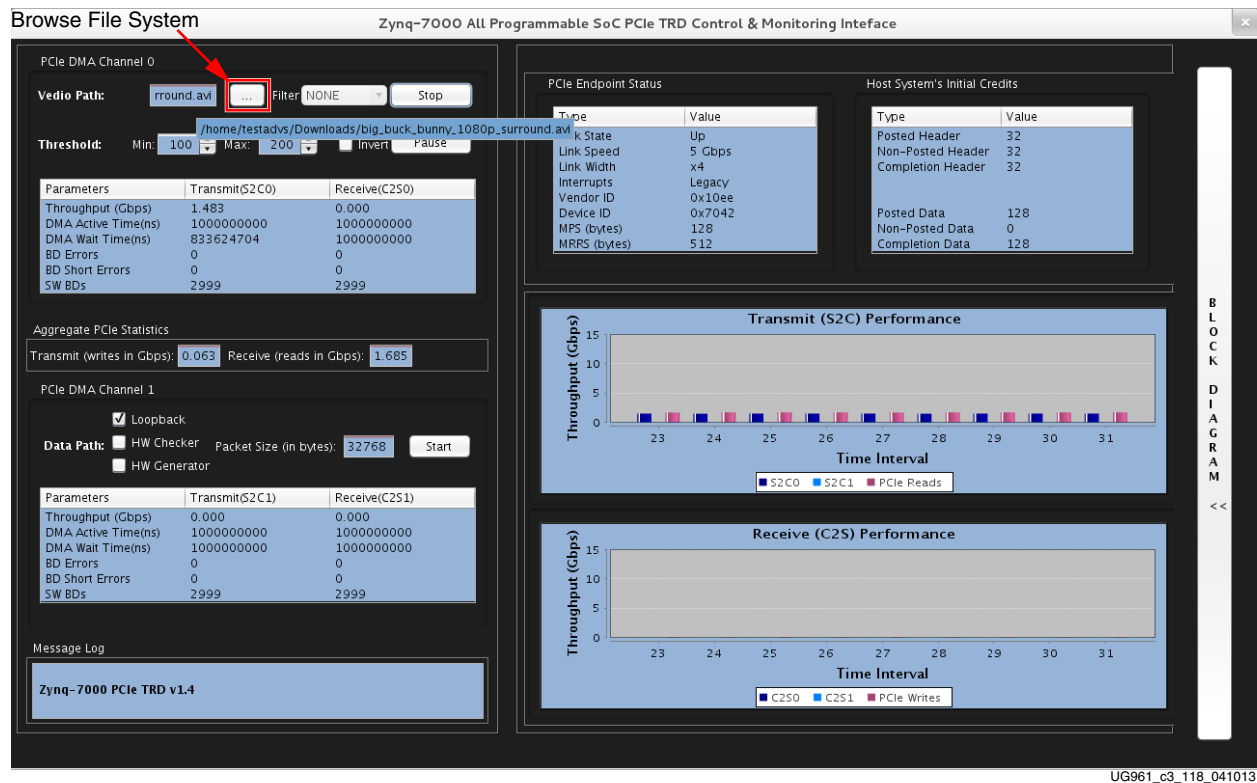

Figure 3-18: Video Mode GUI
- After installing the Video mode driver as described in step 4, page 26, the control and monitor user Interface pops up as shown in Figure 3-18. The control pane shows control parameters such as a video path browse option and sobel filter type selection.
- To select a video file present on the host file system, click the browse file system button ( Highlighted in Figure 3-18).